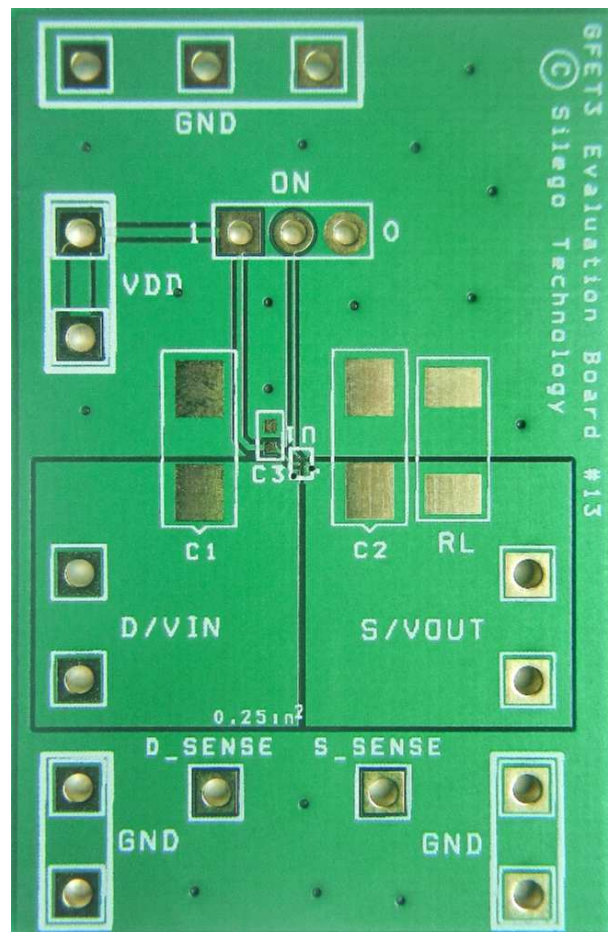

Figure 28. SLG59M1746C Evaluation Board
2. Since the VIN and VOUT pins dissipate most of the heat generated during high-load current operation, it is highly recommended to make power traces as short, direct, and wide as possible. A good practice is to make power traces with absolute minimum widths of 15 mils (0.381 mm) per Ampere. A representative layout, shown in Figure 28, illustrates proper techniques for heat to transfer as efficiently as possible out of the device;
A GreenFET Evaluation Board for SLG59M1746C is designed according to the statements above and is illustrated on Figure 28. Please note that evaluation board has D\_Sense and S\_Sense pads. They cannot carry high currents and dedicated only for  $R_{DS(ON)}$  evaluation.